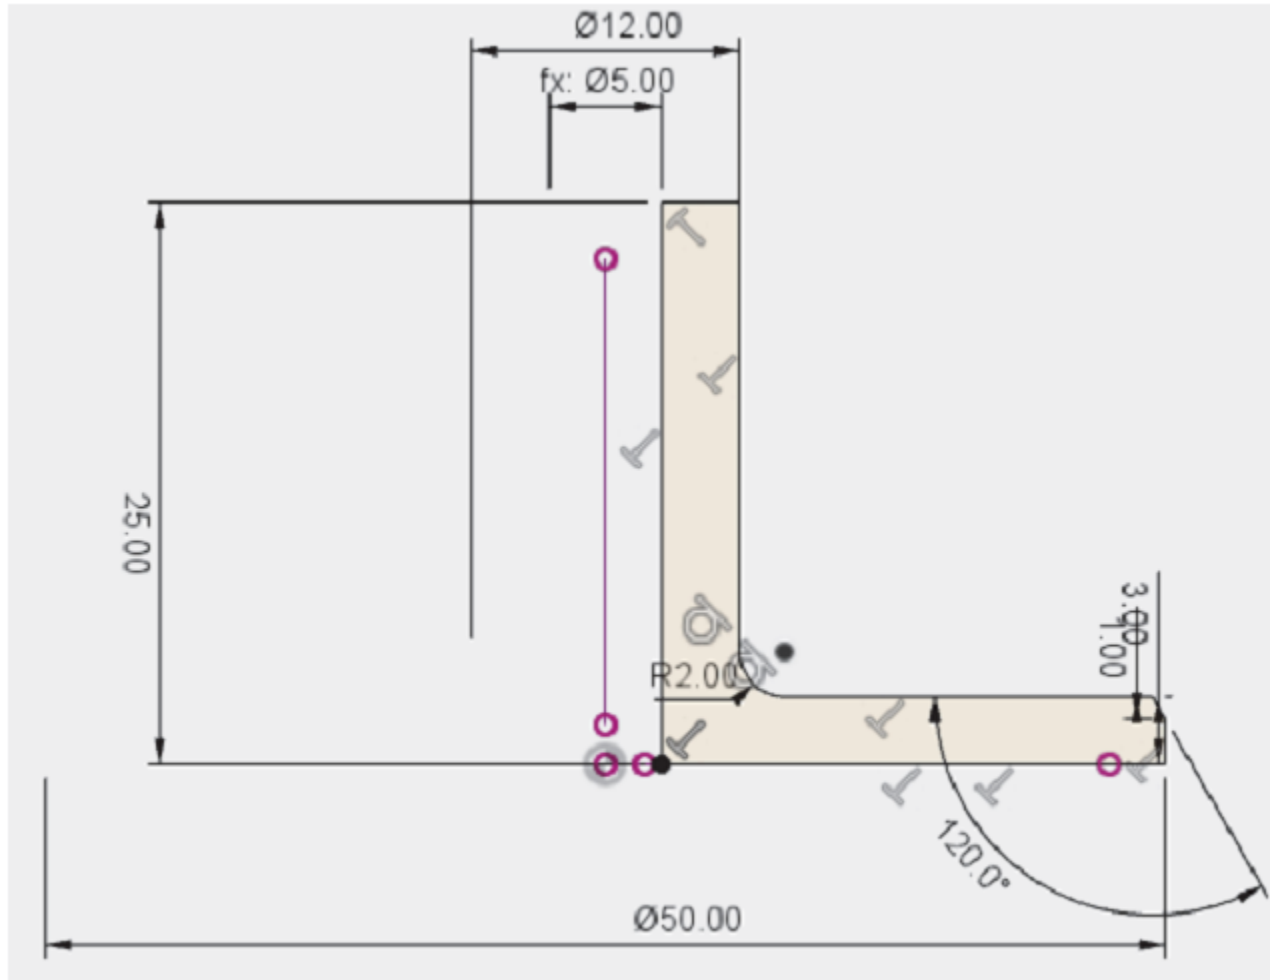

Figure 8–9
4. Modify the outside diameter dimension from 60 to **50**. Note that the inner diameter dimension automatically changes to **fx: Ø5.00** to satisfy the equation you entered. The sketch displays as shown in Figure 8–9.